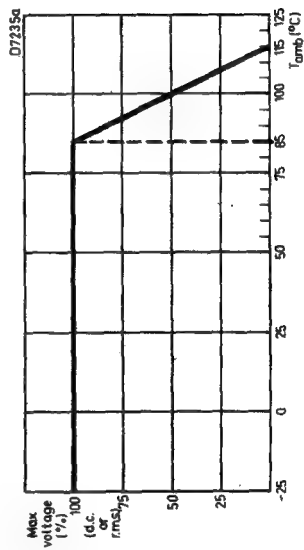

Fig. 2
5) The d.c. working voltage is the average value of the applied working voltage. For ambient temperatures higher than  $85^{\circ}C$  the maximum values must be derated as indicated in Fig. 2.